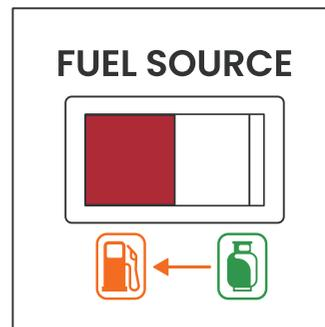

Fig.9
- (1) **Select gasoline fuel:** Press the fuel switch to the left gasoline position (see **Fig.9**).